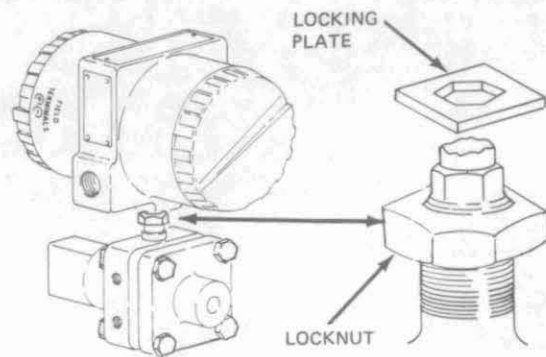

Figure 7
1. Lower the locknut (Figure 7) that holds topworks in place (turn clockwise as viewed from above) until locking plate falls from recess in top works.